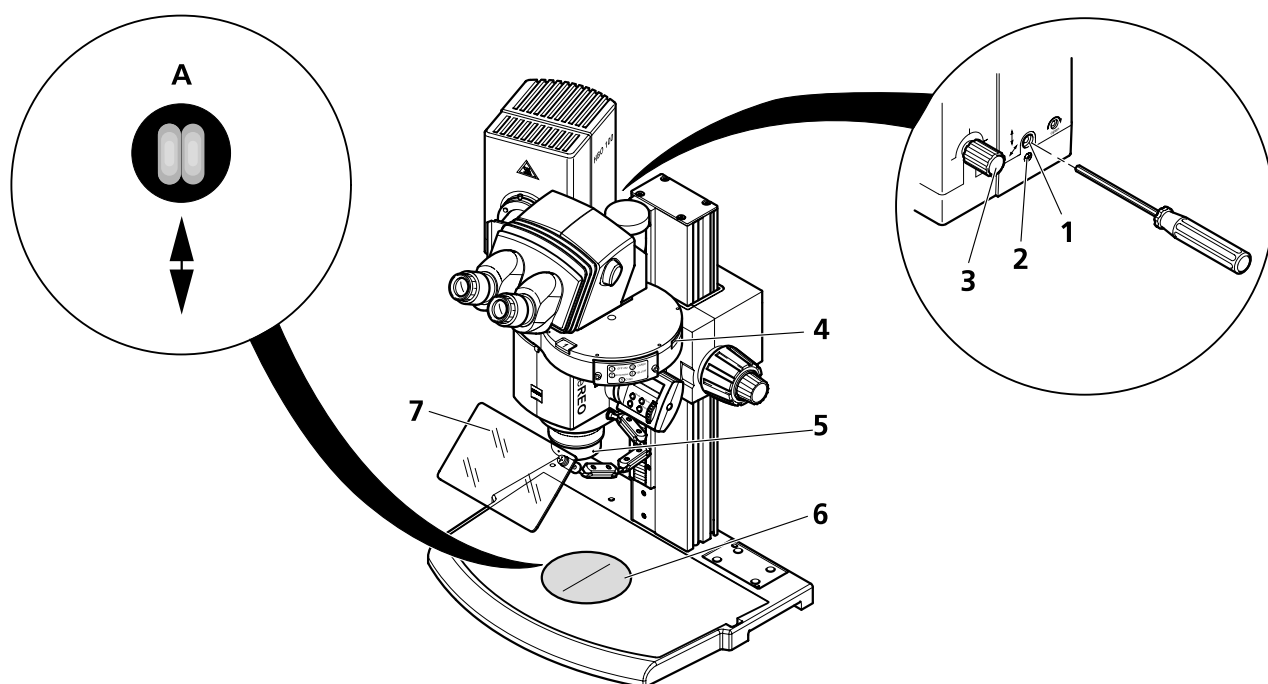

Fig. 43 Adjusting the HBO 100 illuminator
When working with UV light, always swing in the fluorescence protection screen (dazzle protector, Fig. 43/7) in front of the specimen to protect your eyes from scattered light.
4. Turn the filter wheel (Fig. 43/4) of the vertical illuminator to move a filter position into the light path.
When working with the filter block 58, ultraviolet radiation is incident on the object surface. Strictly avoid direct exposure to the skin. Take appropriate precautions when manipulating in the object plane (e.g. use of gliding stage, gloves, UV protection cream, etc.). Make sure to swing down the fluorescence screen (dazzle protector, Fig. 43/7) again after every change of the objective!
- Remove the specimen and put the adjustment circle, $d = 120\text{ mm}$ (Fig. 43/6), onto the stage (see page 108 for a description of the adjustment circle).
- Holding the objective (Fig. 43/5) safely **with both hands**, unscrew it from the microscope body or the objective nosepiece.
- Turn the collector knob (Fig. 43/3) on the HBO 100 until a focused image of the lamp arc/reflected image appears on the adjustment circle.
- Turn the screw for vertical adjustment (Fig. 43/1) until the lamp arc and its reflected image appear at the same level (Fig. 43/A).
- Turn the screw for horizontal adjustment (Fig. 43/2) in such a way that lamp arc and its reflected image appear, if possible, on both sides of the vertical line at the same level (Fig. 43/A).
- Holding the objective (Fig. 43/5) with both hands, turn it into the microscope body or the objective nosepiece.
- Turn the collector knob (Fig. 43/3) to adjust homogeneous illumination.
- Remove the adjustment circle (Fig. 43/6) and put the fluorescence specimen onto the stage.